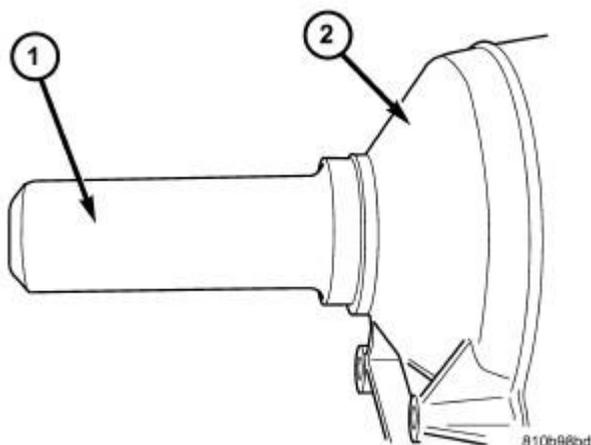

Fig. 102: Installing Output Shaft Seal
6. Install a new transmission rear seal into the transmission case with Seal Installer (special tool #8902A, Installer, Seal) (1). Refer to **Fig. 102**.